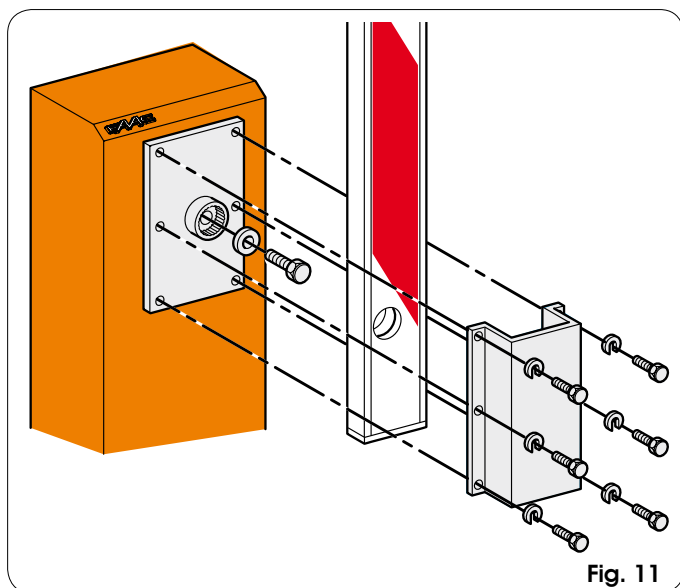

Fig. 11
2. Position the beam in opening position and remove it from the pocket as shown in Fig. 10 or Fig.11.